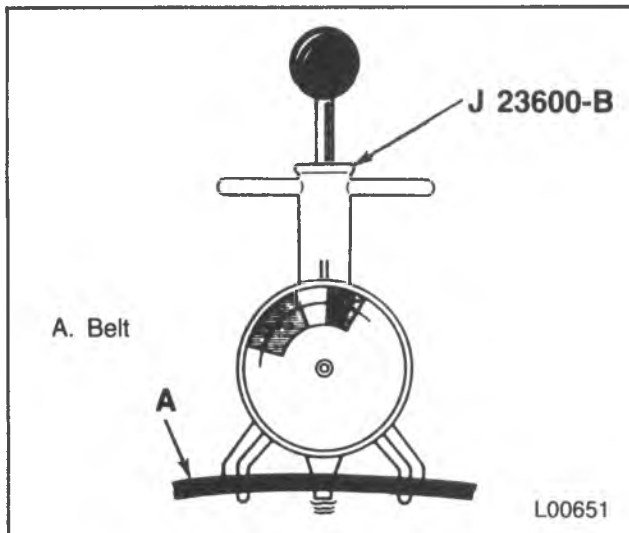

Figure 31 — Checking Drive Belt Tension
- Use J 23600-B to measure V-belt tension (figure 31).